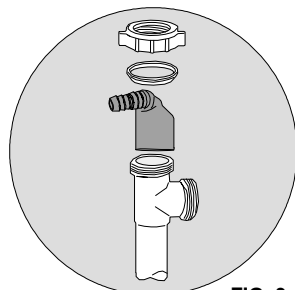

FIG. 3 -OVER-
4. Insert new drain line adapter with barb insert inlet into top of disposal tee until it firmly seats on bottom of socket. Gently secure with S.J. washer and wing nut (provided). (See Fig. 3)